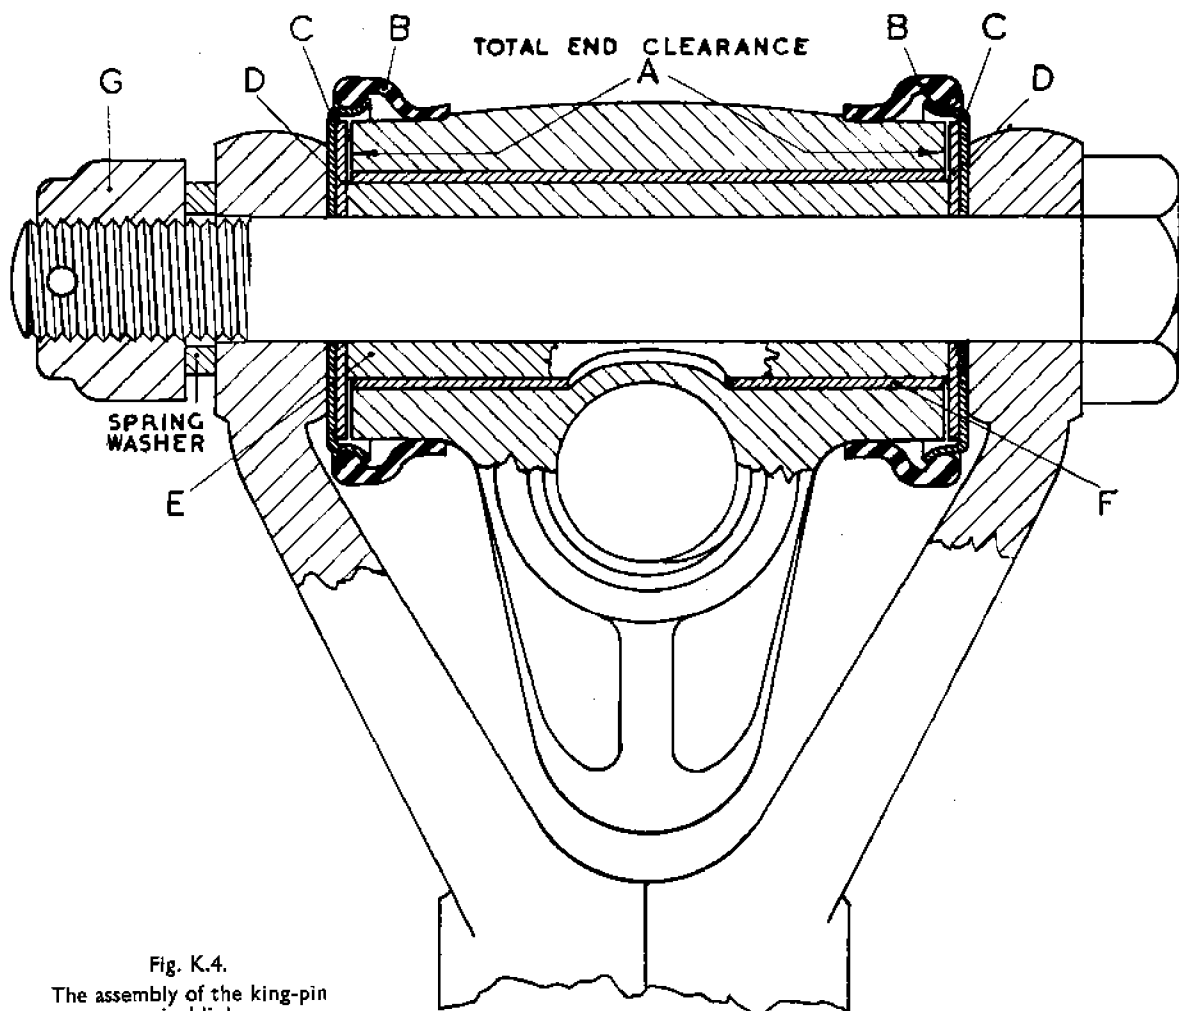

Fig. K.4.
Note.—When pressing in this bush see that the hole in the bush faces the threaded bore. (See Fig. K.4.)
When the swivel links, distance tubes and thrust washers are assembled, the total end clearance between the link and the thrust washers should be .008 in. to .013 in. (.2 mm. to .33 mm.). (See "A," Fig. K.4.)
retainers are assembled in the right order. (See Fig. K.4.)
3. Before the lower steering knuckle link is bolted in position ensure that both thrust washers and rubber seals are fitted correctly (see Fig. K.4) and make sure that the links have a total end clearance of $\cdot 008$ in. to $\cdot 013$ in. ($\cdot 2$ mm. to $\cdot 33$ mm.) between the end faces of the link and the thrust washers.
Note.—Take care that the thrust washers, rubber seals and retainers are assembled in the right order. (See Fig. K.4.)